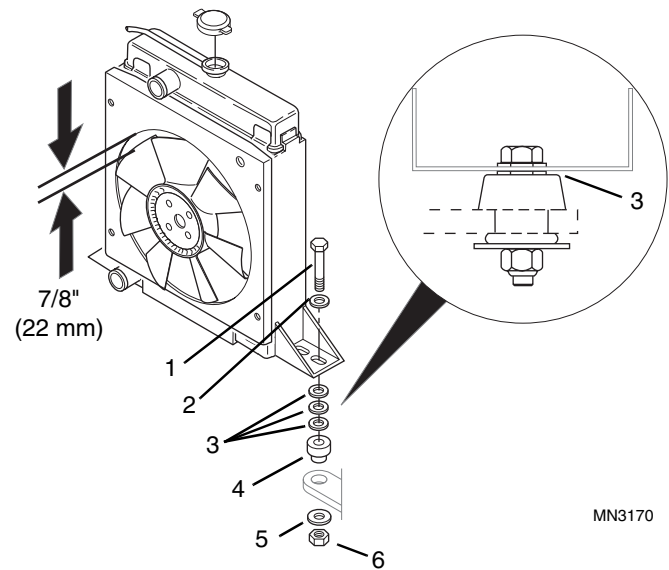

Figure 10-38 Radiator Installation
5. Loose install the capscrew (Fig. 10-38, 1), flat washer (2), fender washers (3), isolator (4), rebound washer (5), and new hex elastic locknut (6) to the left and right side of the bottom of the radiator.
6. By adjusting the quantity of flat washers (Fig. 10-38, 3), adjust the radiator assembly position to achieve a clearance of 7/8" (22 mm) between the shroud and fan blade tips (See Fig. 10-38). When the clearance is adjusted as required, tighten all capscrews (1) and hex elastic locknuts (6) securely.